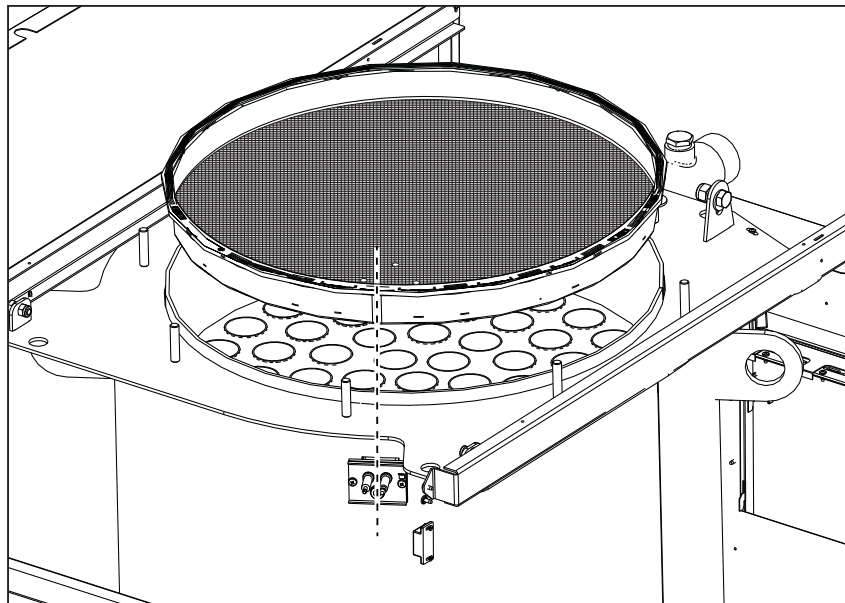

fig. 67 - Alignment of the burner
**IMPORTANT:** after cleaning the burner, be sure to position it by aligning the flange joint weld with the center of the peephole hole (see fig. 67).